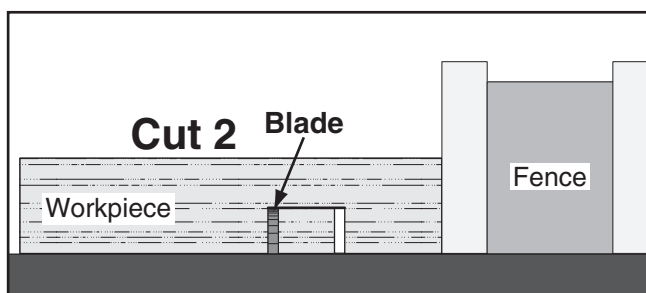

Figure 63. Second cut for a single-blade dado.
7. Repeat cutting operation on other side of dado, as shown in **Figure 63**.